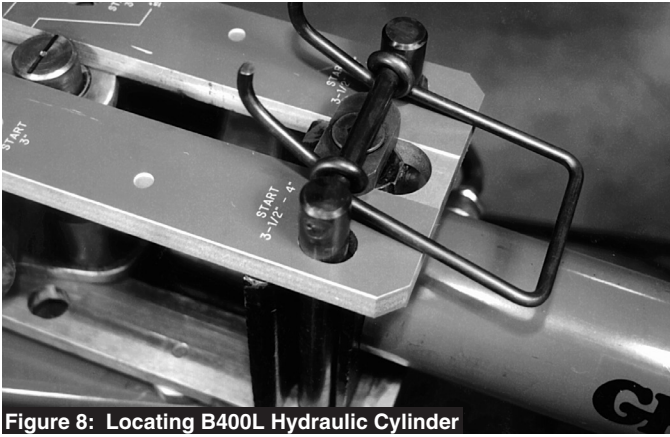

Figure 8: Locating B400L Hydraulic Cylinder
1. The B400L and B400DL use a 28" hydraulic cylinder. As a result, the upper and lower plate assemblies use the 3½"-4" frame holes for mounting all sizes of conduit bending shoes. See figure 8. For smaller sizes of conduit, the cylinder plunger must be advanced to position the roller assembly against the follow bar.